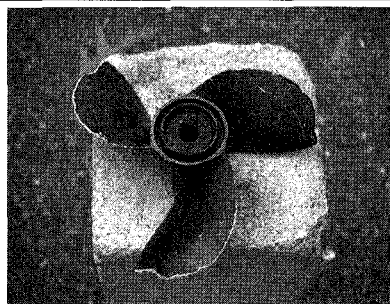

Fig. 72 This propeller is long overdue for repair or replacement
- ◆ See Figures 72, 73 and 74
◆ See Figures 72, 73 and 74